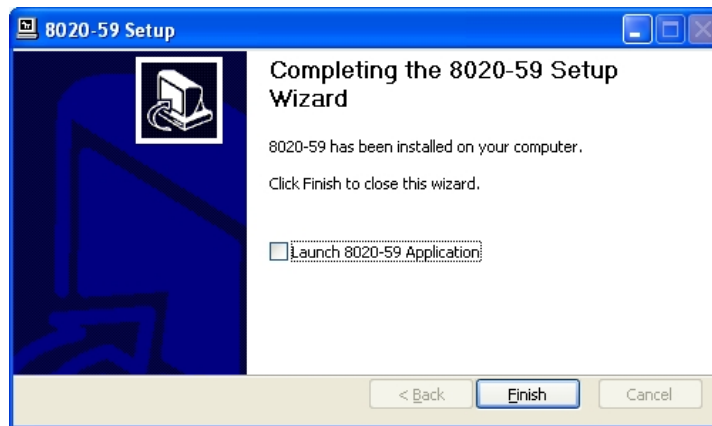

Figure 8 - Install Wizard, Launch 8020-59 Application
- 8) The installation process is now complete. Clicking “Next >” allows the opportunity to launch the 8020-59 application when finished by checking the box next to “Launch 8020-59 Application” (see Figure 8). Click on “Finish” (see below) to close the install wizard.